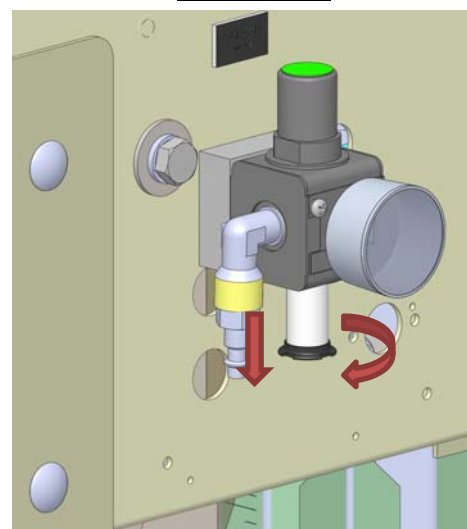

Figure-32C
3. The air regulator filter (**Figure-32C**) is held in place using a threaded cap fastened on to the main assembly. To remove the filter, unfasten the cap and pull down on filter.